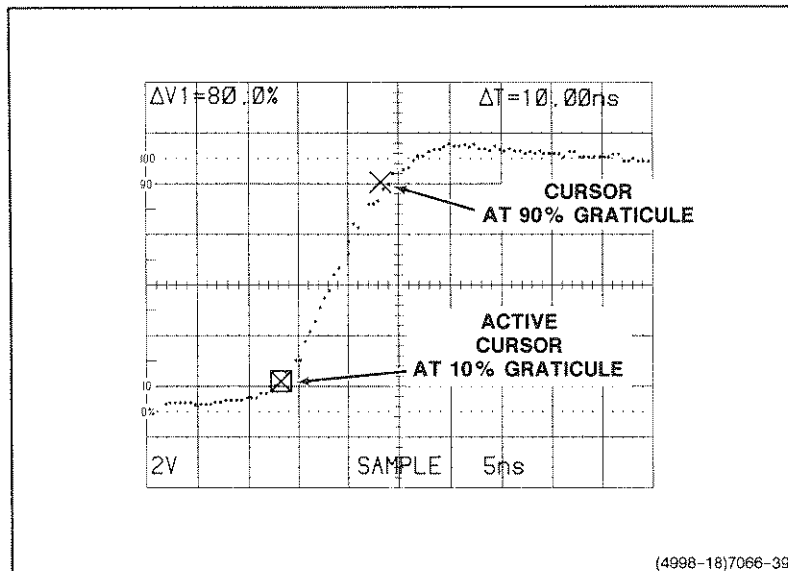

Figure 6-18. Rise time, cursor method.
9. Push in the CURSORS knob (SELECT C1/C2) to select the other cursor, and use the CURSORS control to move the active cursor up the waveform's leading edge until the  $\Delta V$  readout is 80% (see Figure 6-18).